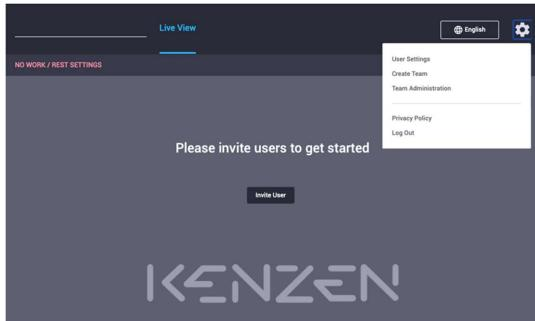

Figure 36: Create Team
- Select the gears setting icon in the upper right corner and select **Create Team** (Figure 36).